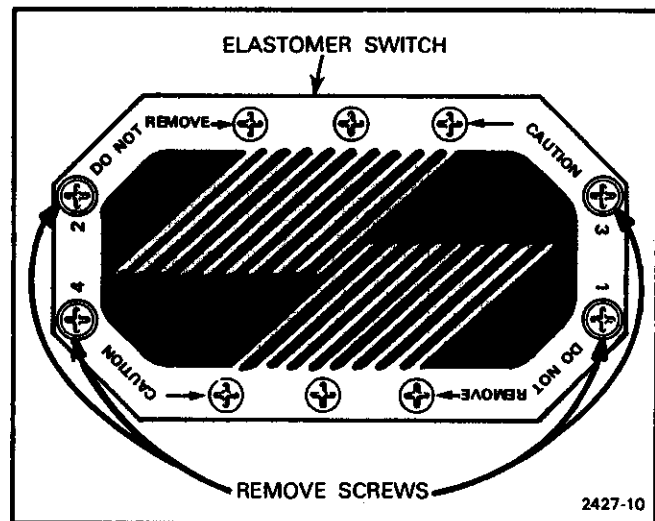

Figure 4-5. Retaining screws for elastomer switch.
- 3. Hold the elastomer housing against the circuit board while removing the four 4-40 screws that hold the switch to the circuit board. Figure 4-5 shows the retaining screws. Do not loosen the other screws.